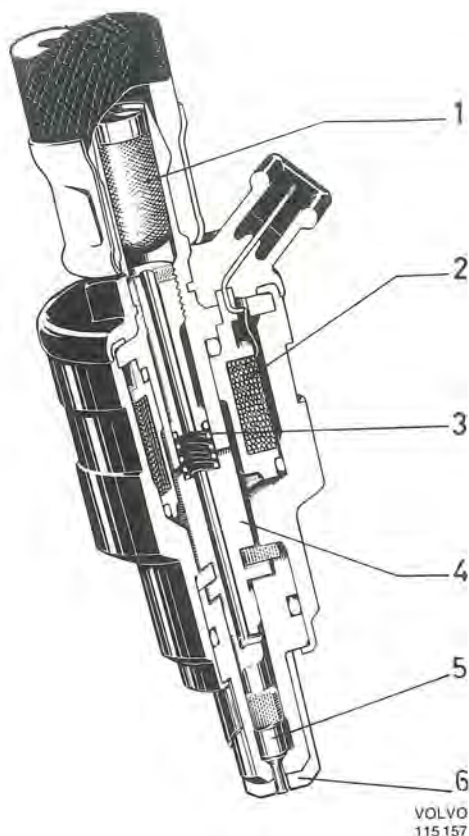

Fig. 2-58. Injector
The injector consists of a housing containing a sealing needle magnetic winding and return spring, see Fig. 2-58. When the magnetic winding (2) is not in circuit, the return spring (3) presses the sealing needle (5) against a seat and this closes off the supply of fuel.